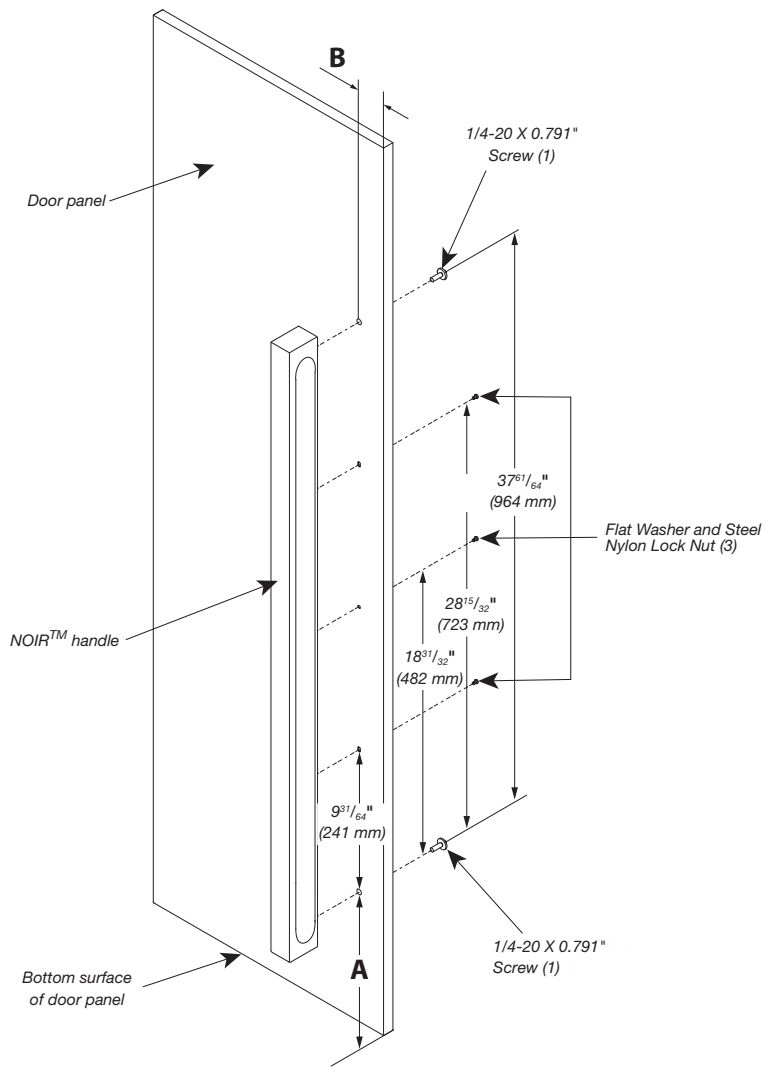

Figure 1 - Refrigerator/freezer door
- For model specific hole locations and the spacing requirements of NOIR™ handle mounting, refer Figure 1 and Table 1.
NOTE: Figure 1 represents a Side by Side (left) freezer panel, a French door (left) refrigerator panel, a bottom mount left swing refrigerator panel, and column refrigerator/freezer panel. Mirror the hole pattern on the opposite door panel as required.
1. Measure 'A' from the bottom of the panel, measure 'B' from side of panel. Mark the hole locations as shown in Figure 1. Refer to Table 1 for 'A' and 'B' dimension based on the panel configuration.